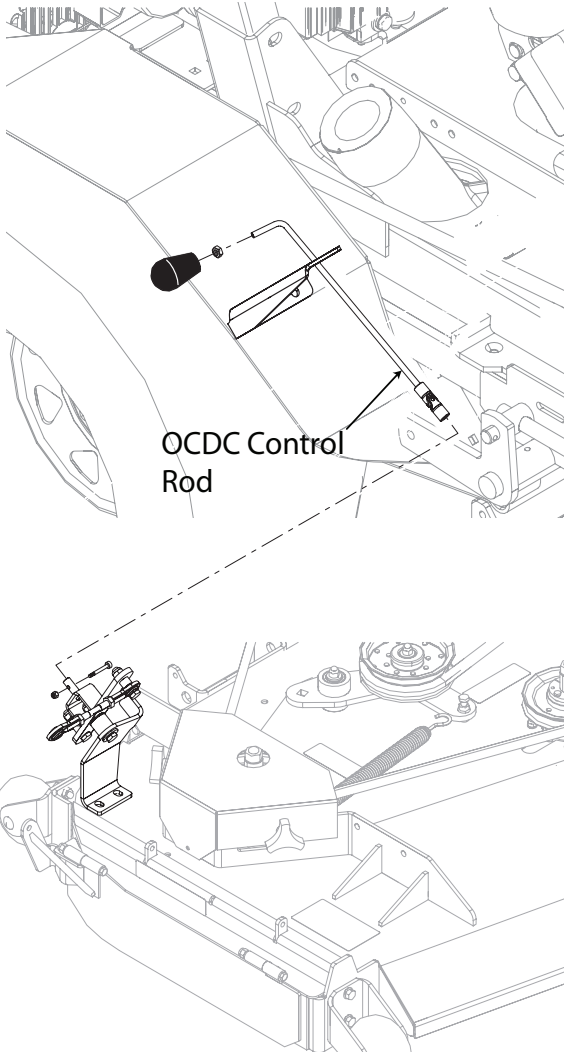

**Figure 3-30. OCDC Handle Bracket Install**
15. Install the OCDC handle bracket to the right side fender. See Figure 3-30. Secure using two (2) 5/16-18 x 1" bolts and two (2) 5/16-18 serrated flange nuts as shown in Figure 3-30.